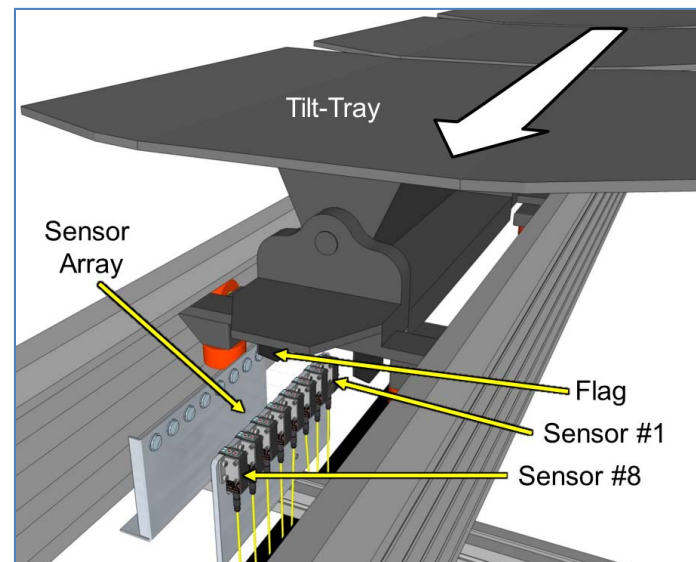

Figure 3 – Possible Sensor Array Positioning
- Confirm that the sensor array is wired so that the first sensor flag on the tilt-tray or cross-belt cell passes is **sensor #1**, followed by sensor #2, #3, and the other sensors in numerical order. (See Figure 3 – Possible Sensor Array Positioning.)